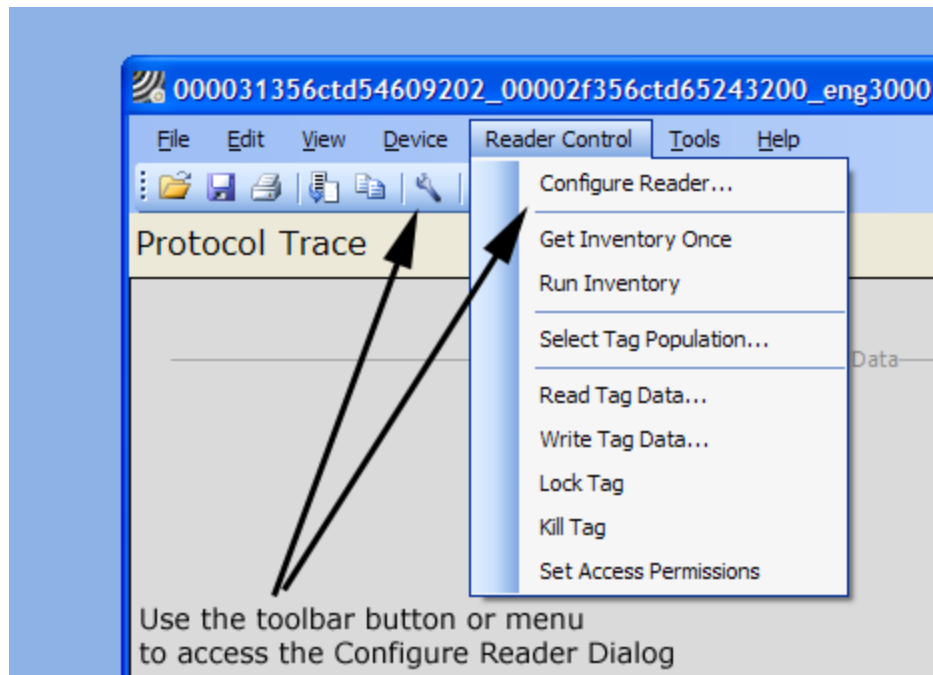

Figure 6 Reader Configuration Dialog
Step 1: Select the Configure Reader menu item or click on the wrench icon on the tool bar, as shown in Figure 6.